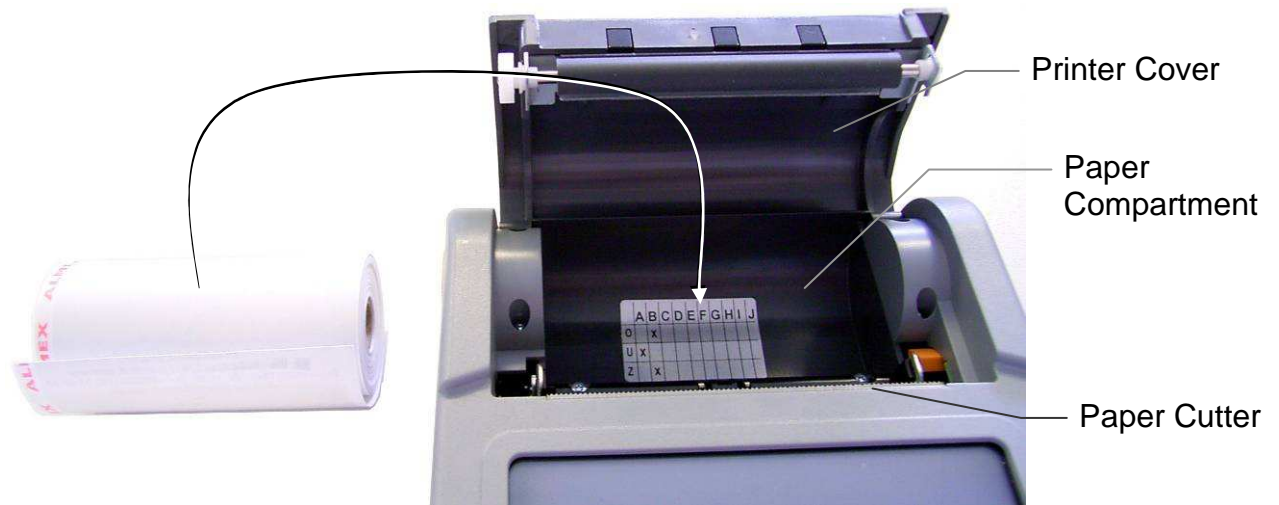

Fig. 28: Inserting the paper roll
4. Insert the new paper roll as shown in Fig. 28.